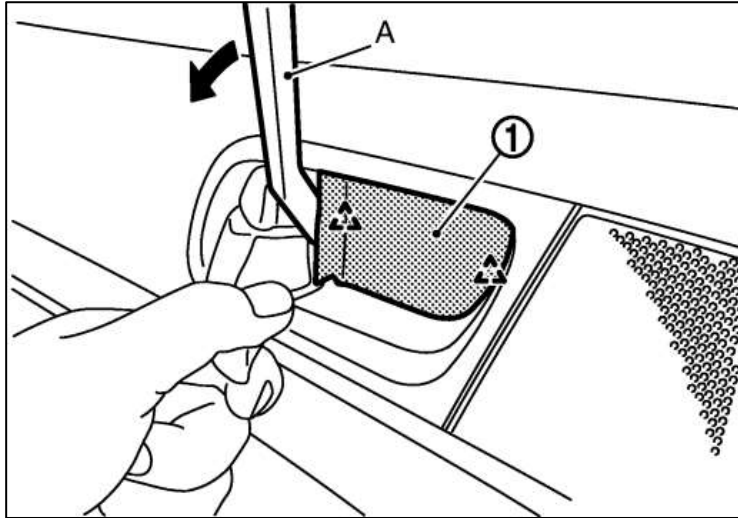

Figure 54
2. Behind the Door Handle, remove the small Trim Piece using a Trim Removal Tool. *Figure 54.*